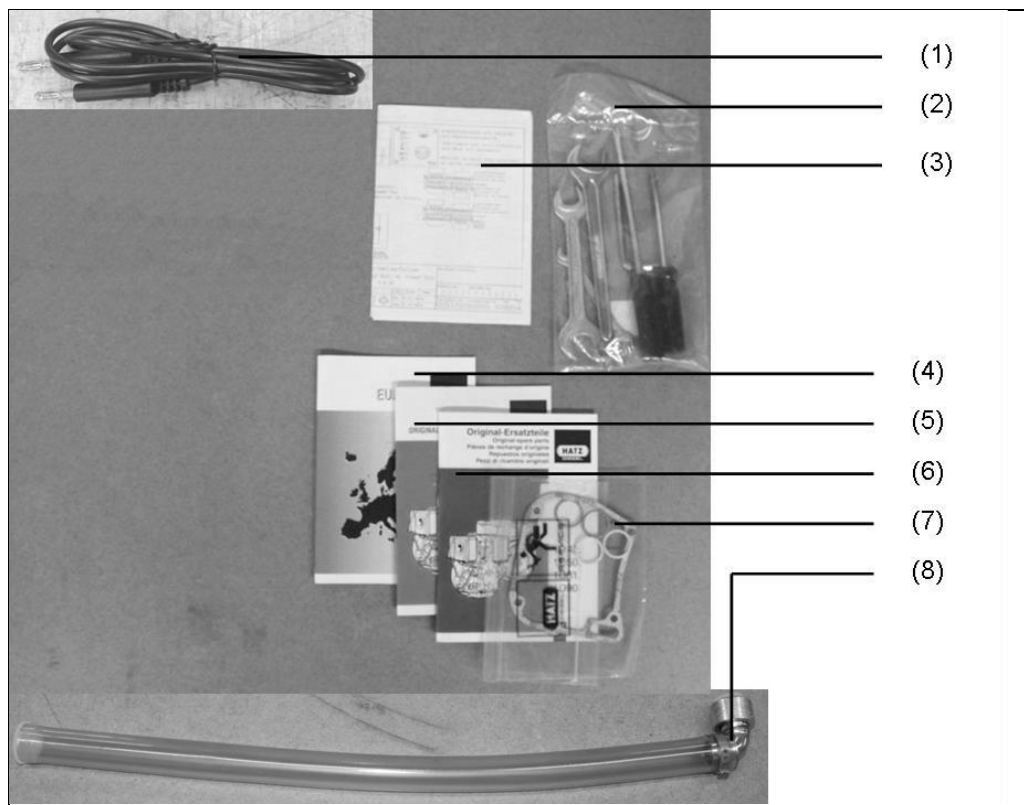

Figure 1-1: Delivery documentation / Accessories
The operating manual and the maintenance instructions for the engine (see Figure 1-1-(5)) are integral components of these instructions.
- Cable with test tip (see Figure 1-1-(1))
- Tools (see Figure 1-1-(2))
- Engine circuit diagram (see Figure 1-1-(3))
- Motor service centre directory (see Figure 1-1-(4))
- Engine operating instructions (see Figure 1-1-(5))
- Motor replacement parts list (see Figure 1-1-(6))
- Motor replacement seal (see Figure 1-1-(7))
- Oil drain hose (see Figure 1-1-(8))